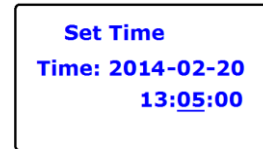
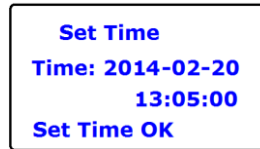

Fig 6.3.13
Fig 6.3.14
- 4) When finish the Minute sequence, thrice knock to enter, as Fig 6.3.13 and Fig 6.3.14.